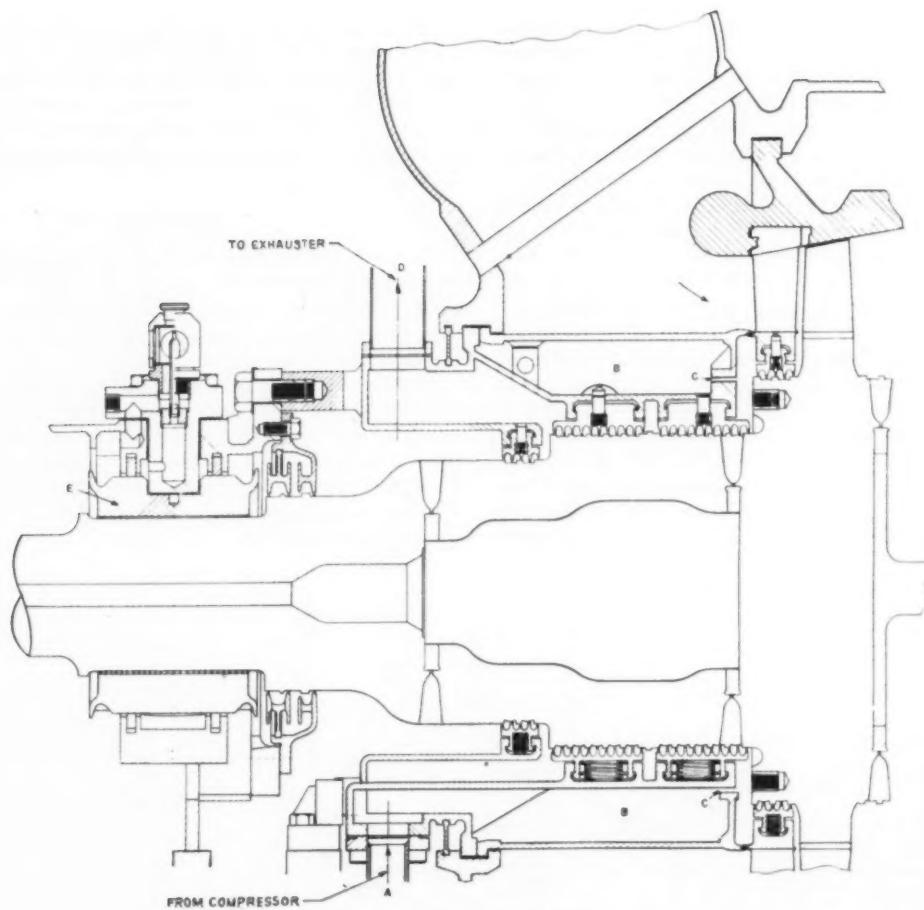

FIG. 7 HIGH-PRESSURE GLAND
**Glands.** A section through the high-pressure gland is shown in Fig. 7. The purpose of this gland is threefold: (1) to seal the hot gases from escaping between the stationary and moving parts at the high-pressure end of the cylinder; (2) to cool the turbine spindle at this point in order to reduce the maximum temperature of the rotating element; and (3) to reduce the temperature of the turbine spindle at the adjacent bearing journal, *E*.